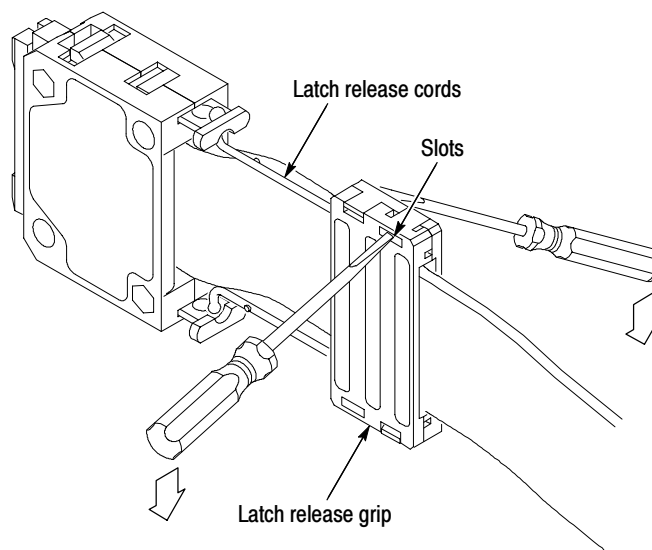

Figure 24: Disassembling the latch release grip
1. Use two small, flat-bladed screwdrivers in the slots opposite the tabs on each side of the grip as shown in Figure 24.